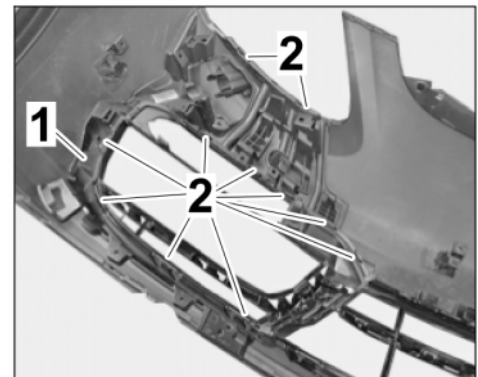

Figure 18
3.2.3 Install grille (at the left/right) into the front apron (⇒ *Figure 18*).